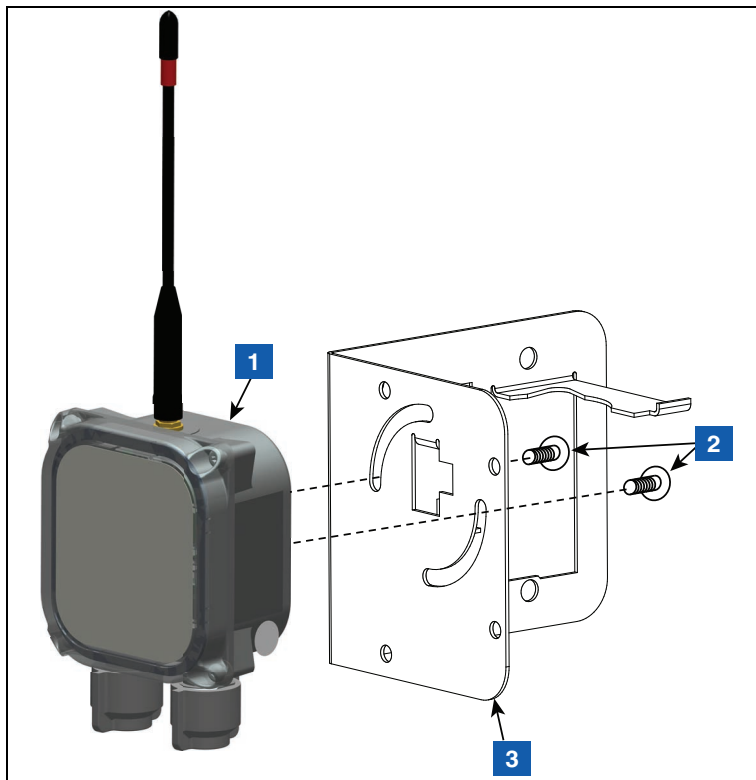

Figure 15. Attach Transmitter to 332295-001 Bracket
3. Attach Transmitter to support bracket as shown in Figure 15.
LEGEND FOR NUMBERED BOXES IN Figure 15